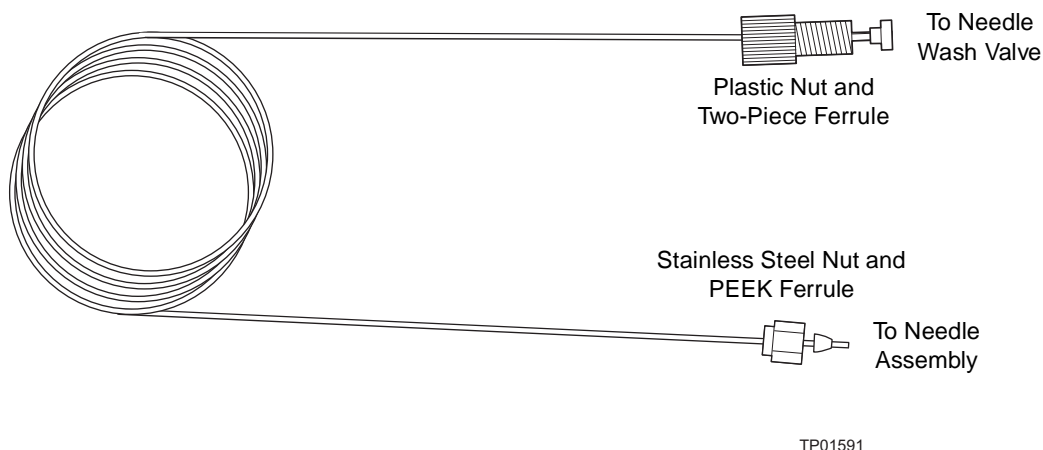

Figure 7-23 Holding Loop (Assembled)
4. Unscrew the plastic compression screw from the Needle Wash valve (see Figure 7-15), then remove the holding loop (Figure 7-23).